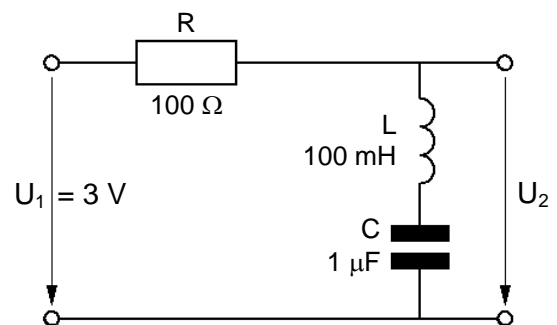

Fig. 17.2.8: Series oscillating circuit as bandstop
- Assemble the circuit in Fig. 17.2.8 on the Electronic Circuits Board.